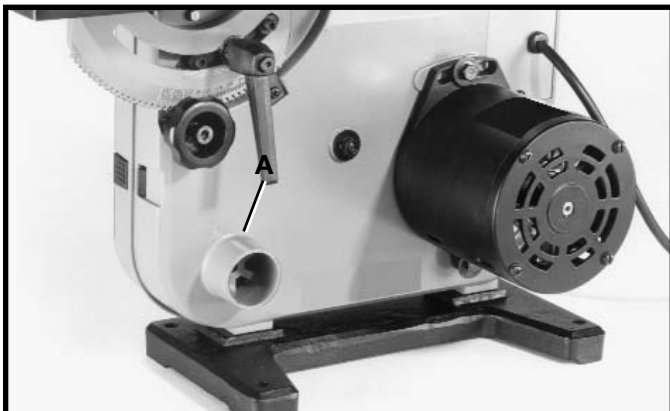

Fig. 37
A dust collection system can be attached to the 1¼" O.D. dust chute (A) Fig. 37.